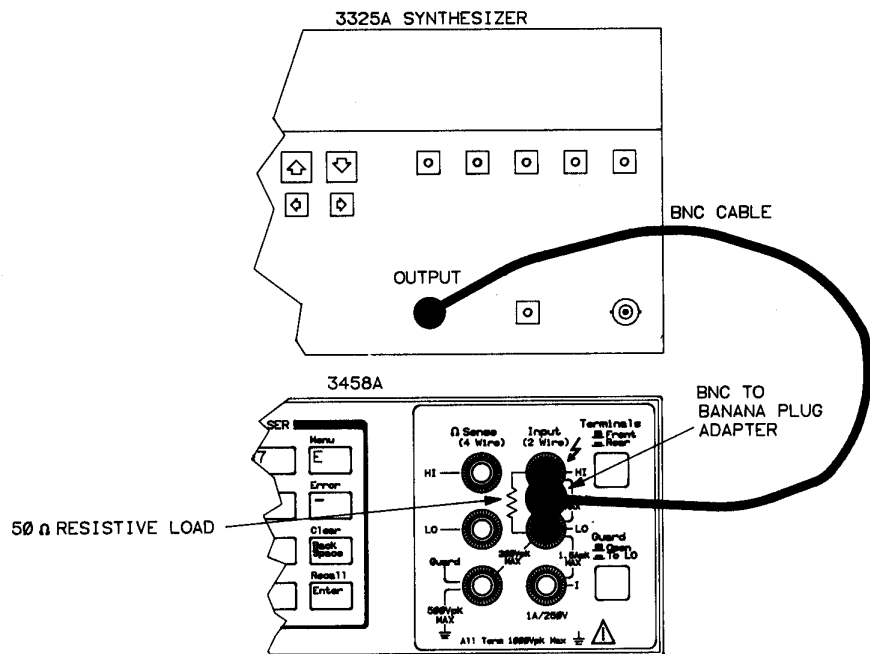

**Figure 3-4** Characterizing the adjustment setup
- 3 Set the synthesizer to deliver a 3 V rms sinewave at a frequency of 100 kHz. Connect the synthesizer, the 3 V thermal converter, and the multimeter as shown in Figure 3-4. Record the exact DC voltage measured by the multimeter on Line A of the Adjustment Record.